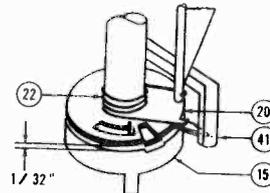

Fig. 7
- c. Lift Pick-up Arm (1) and note Set Screw (11) (See Fig. 6). Note: It may be necessary to line up hole in Adjusting Ring (8) by moving Adjustment Screws, to gain access to Set Screw (11). After loosening Set Screw (11), turn Ratchet Arm (15) until pin on upper side reaches end of slot closest to leg on Set Down Locator (20) (See Fig. 7).
4. Ratchet Arm (15) not disengaging from the Set Down Locator (20) when a cycle is completed. There should be a space of approximately 1/32" between the above parts. See Fig. 7 as well as section entitled "To Disassemble Pick-up Arm Mechanism" on Page 6.
5. Check for binding between Ratchet Arm (15) and Set Down Locator (20).